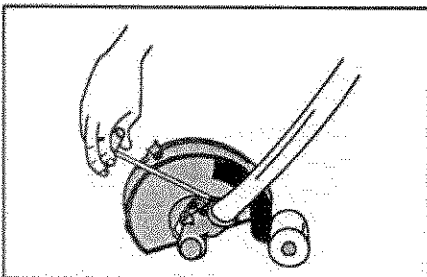

Fig. 3
3. Back out the anti-rotation screw and push the boom assembly into the casting. Rotate until the hole in the boom is aligned with the hole in the casting. Install the anti-rotation screw and tighten the clamp screw (Fig. 3).